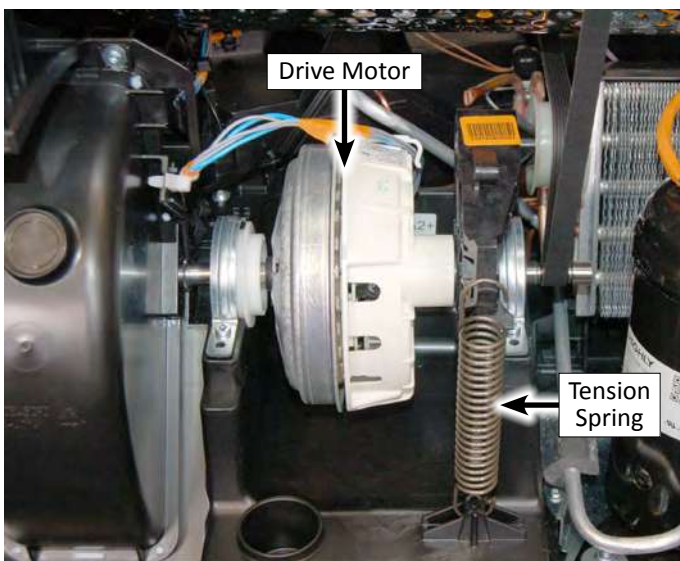

Figure 1
6. Use needle nose pliers to remove tension spring from drive motor (see Figure 1).